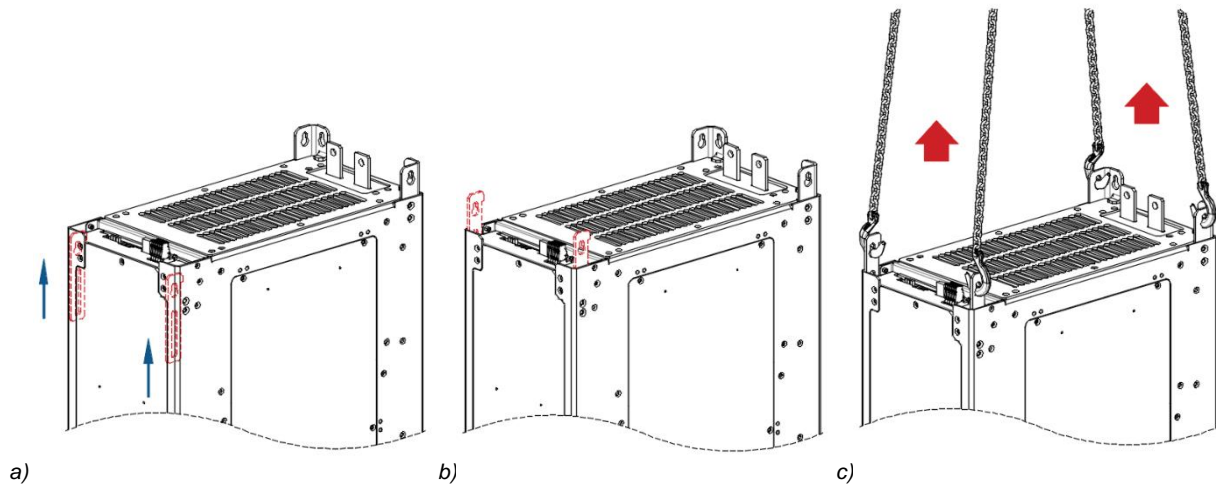
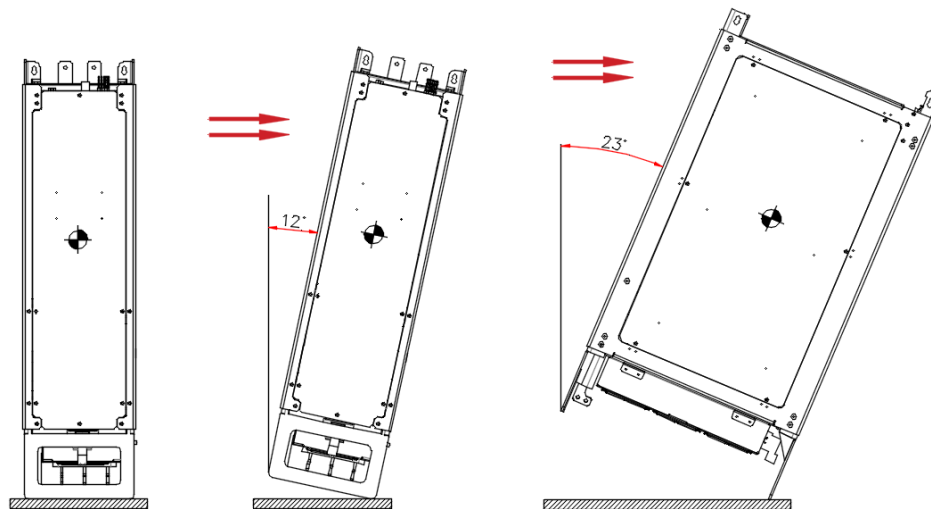

Fig. 3-1: SDx.3 – Eyelet for lifting: hide (a), pull out (b) and lift (c)
Fig. 3-2: SDx.3 – Do not overpass the maximum tilting
Lifting and moving the drive is allowed with proper eyelet (Fig. 3-1). Do not tilt the drive to avoid module overturning (Fig. 3-2): the center of gravity is high and the DPM is heavy.
- Move the drive near the installation site. User has to move the module using a hoist with proper chains or cords to avoid toppling of the module. Eyelet on top must be used (Fig. 3-1.a).